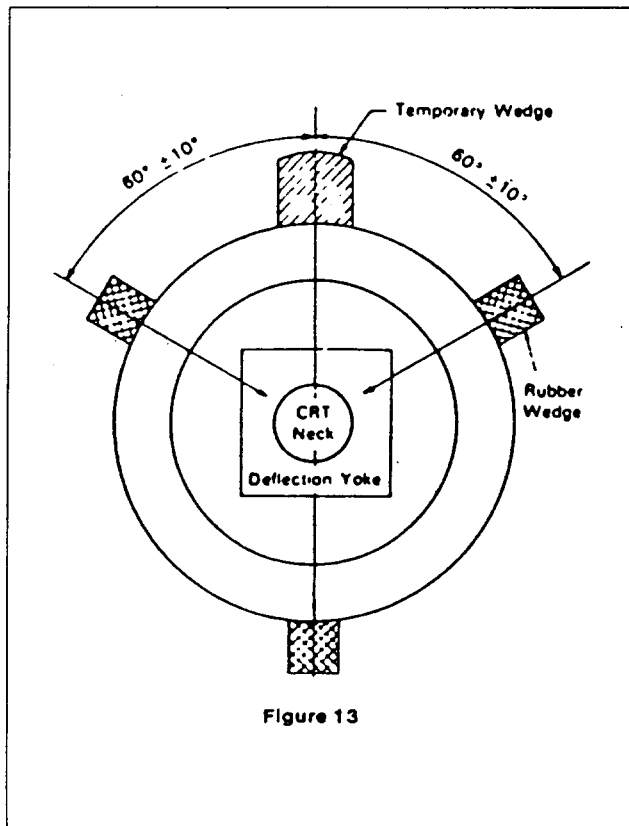

Figure 13
4. Insert three rubber wedges to the position as shown in Figure 13 to obtain the best circumference convergence.
4. The angle of each rubber wedge is shown in Figure 13.